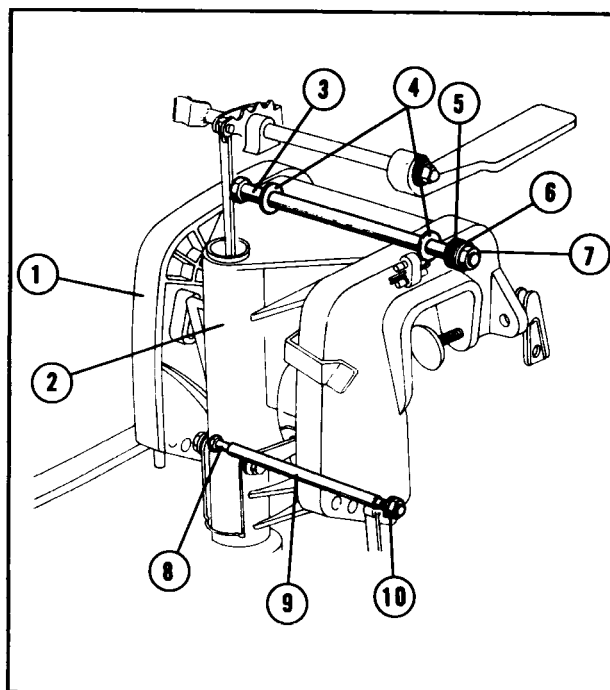

Fig. 5-14
1. Attach the swivel case to the stern brackets with the parts shown in Fig. 5-14.